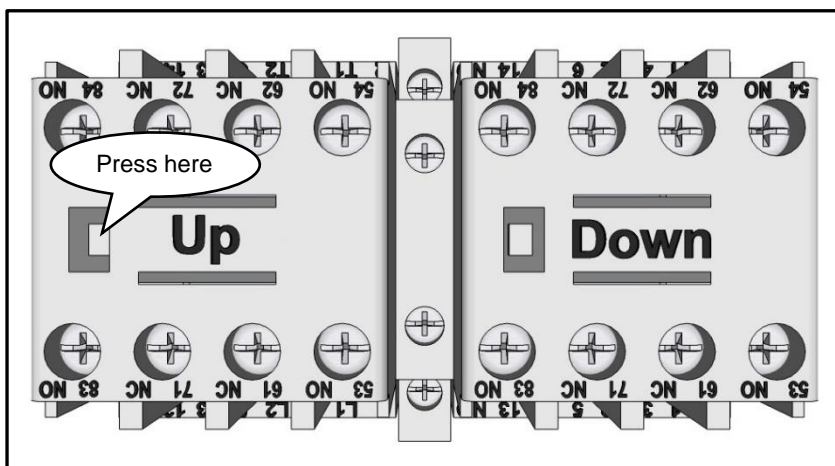

Figure 8
- 2** To check the motor rotation, open the control box and locate the Down “D” and Up “U” contactor. (see **Figure 8**)